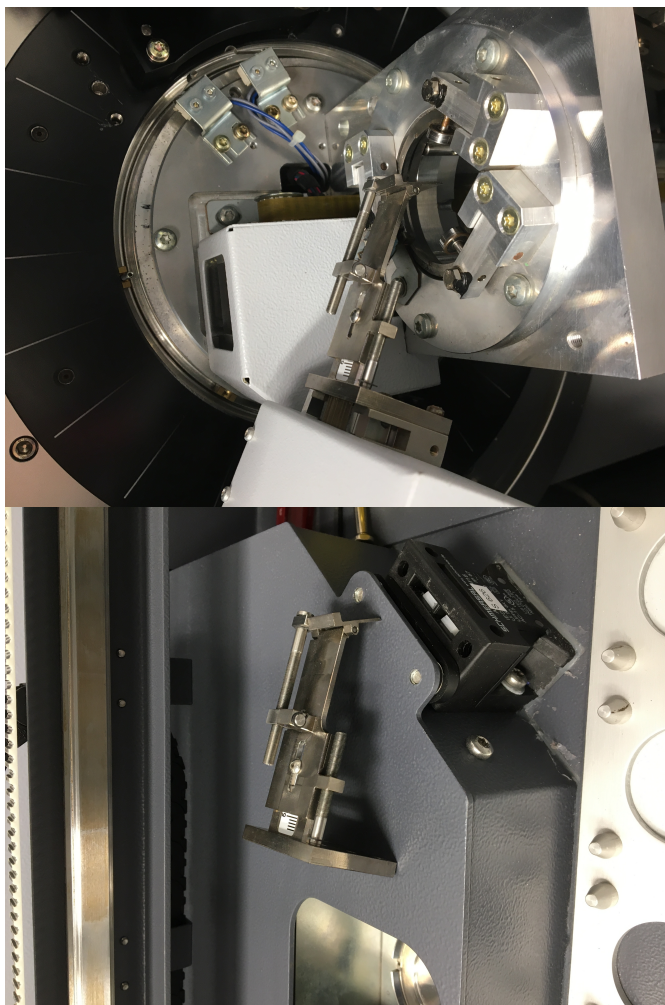

Figure 18. Anti-air scatter screen in place inside the instrument (top image) and after being removed (btm image).
8. Remove the anti-air scatter screen (*Figure 18*). Using an Allen wrench, unscrew the four screws holding up the anti-air scatter screen. These screws are very tiny and easy to drop inside the D4. Be very careful while unscrewing them. The screws are the main support for the screen, so hold onto the screen while removing the screws or else it can fall.